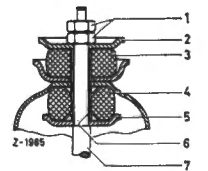

Fig. 32-0/10
¹⁾ On the 1st version with protective steel sleeve (7) a 7 mm high rubber cap was installed (Fig. 32-0/8).
²⁾ On the 1st version, the spacer tube was firmly connected with the protective steel sleeve (7) (Fig. 32-0/8).